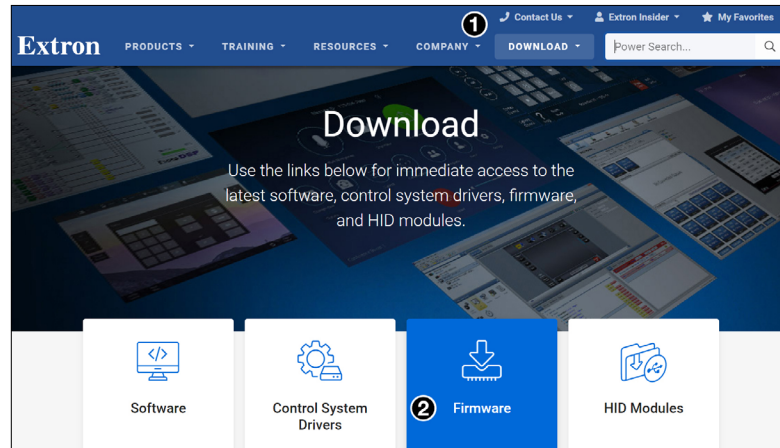

Figure 29. Firmware Download Center
This provides general and network information about the unit in read-only form (see figure 29, below). Use the **Setup Menu** (see page 16) or Toolbelt to configure the TLC network settings.
2. Go to www.extron.com, click **Download** (see figure 29, ①) and then click **Firmware** (②).